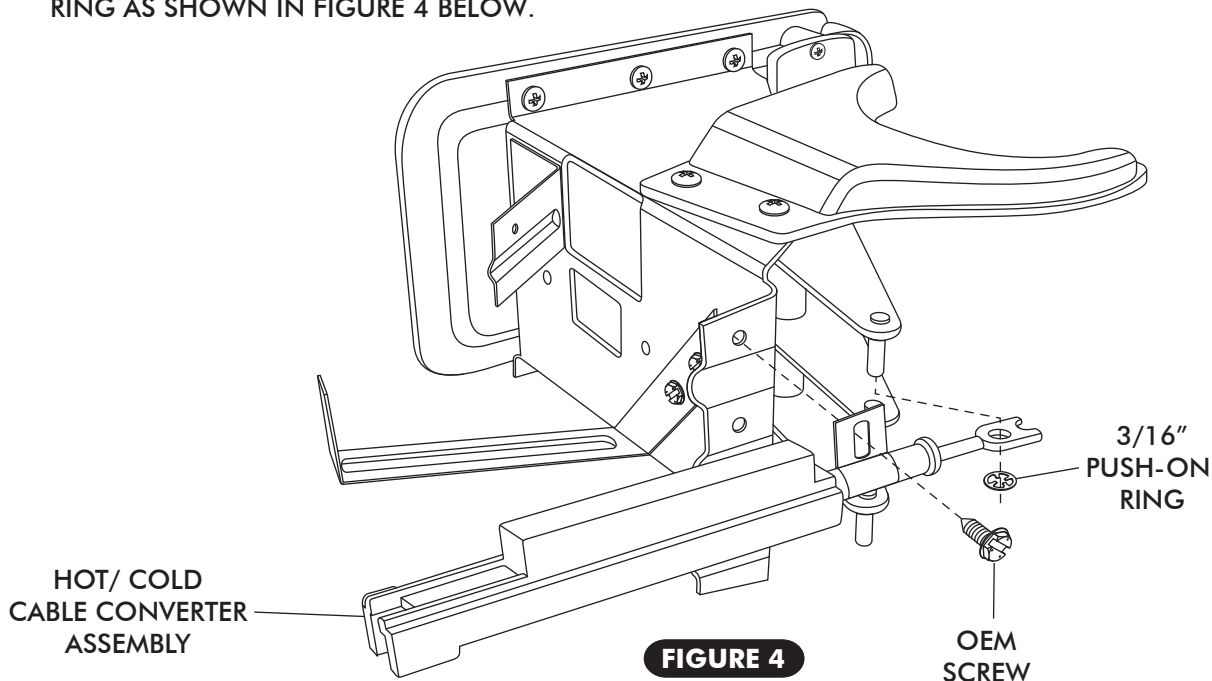

FIGURE 4
- INSTALL CABLE CONVERTER ASSEMBLY ON THE HOT/ COLD LEVER. (SEE FIGURE 4 BELOW.)
- SECURE CABLE CONVERTER LEVER PUSH ROD ONTO OEM CABLE MOUNTING STUD USING 3/16" PUSH-ON RING AS SHOWN IN FIGURE 4 BELOW.